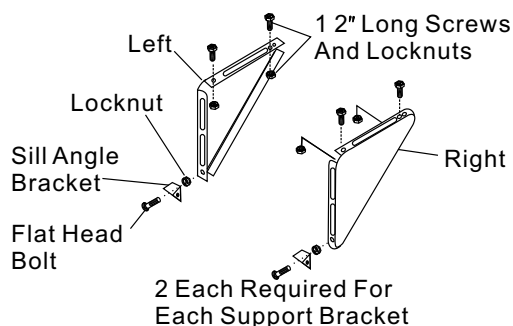

Fig.15B
2. Assemble sill angle bracket to support brackets at the marked position(Fig. 15B). Hand tighten, but allow for any changes later.